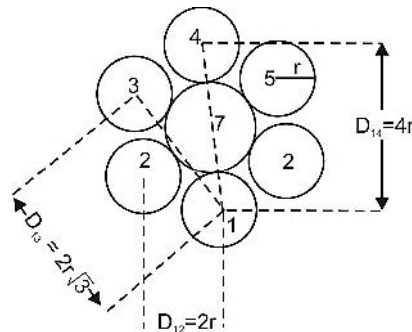

Fig.1
- b) Find geometric mean radius of a stranded conductor having 7 identical strands each of radius r and is shown in Fig.1. Also find the ratio of GMR to overall conductor radius. Comment on the results .